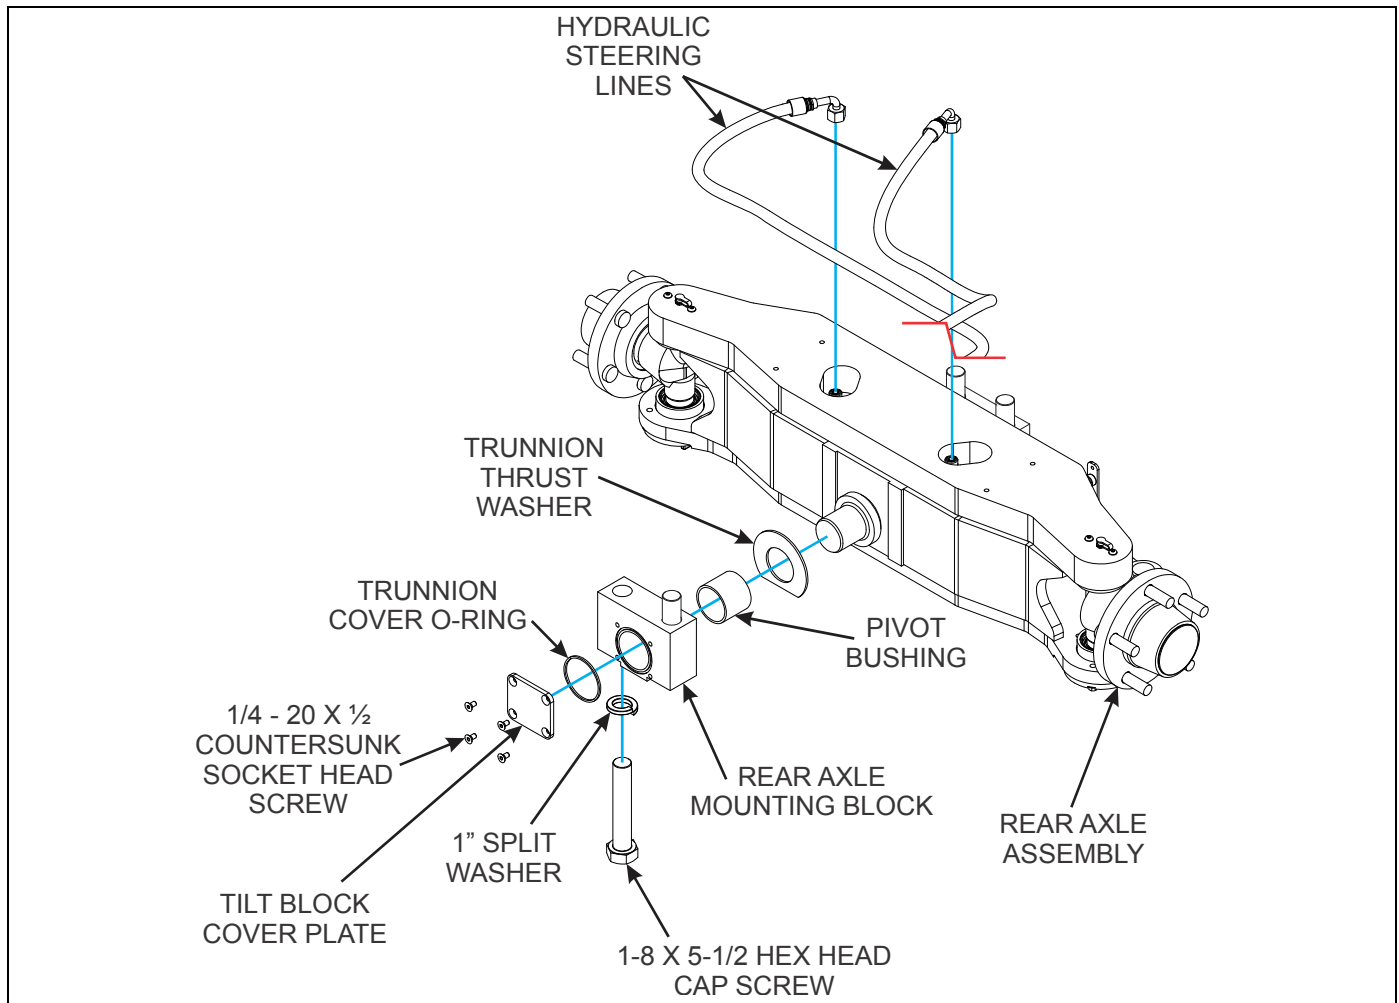

Figure 3-22: Rear Axle Removal
2. Remove and cap/plug hydraulic lines to steering cylinder (See Figure 3-22).
5. Remove 1-8 x 5-1/2 hex head cap screws that fasten rear axle mounting blocks to frame (See Figure 3-22).
1. Slide rear axle mounting blocks from axle (See Figure 3-22).